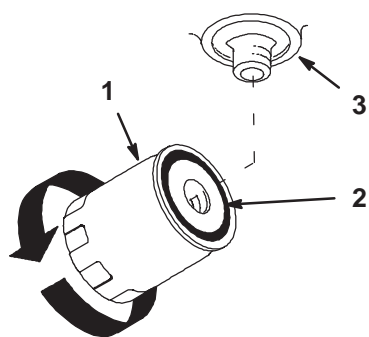

Figure 42
4. Apply a thin coat hydro fluid to the rubber gasket on the replacement filter (Fig. 42).
7. When fluid overflows filter turn the oil filter clockwise until the rubber gasket contacts the filter adapter, then tighten the filter an additional 1/2 turn (Fig. 42).